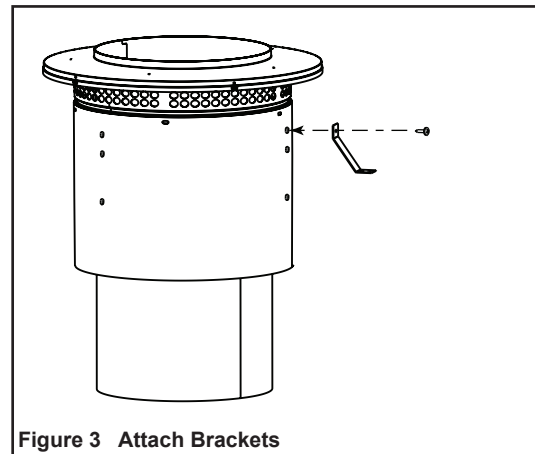

Figure 3 Attach Brackets
- Attach three brackets to the cap using the holes as indicated below and in Figure 3: